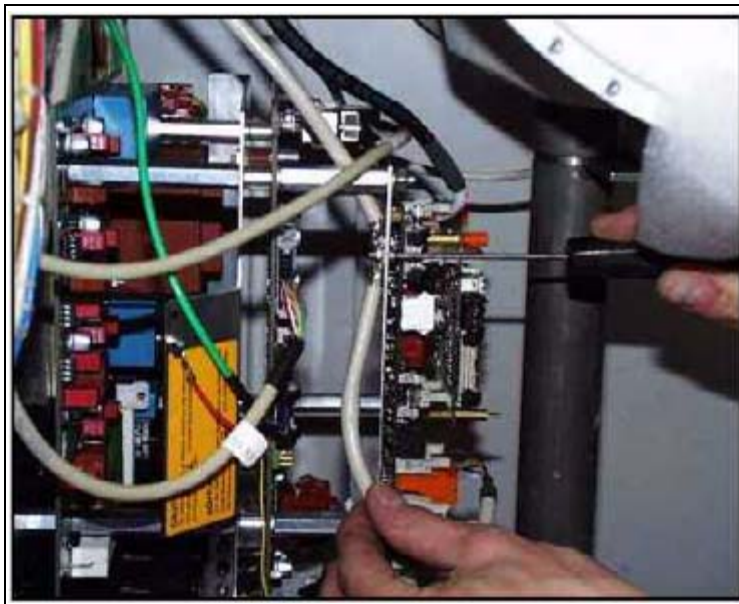

Fig. 26: 3D reconstruction system electronics
1. The 3D reconstruction system electronics (PC board D200 incl. MCB300 and D10) are attached in front of PC board D1 in the basic unit (Fig. 26 / p. 69).